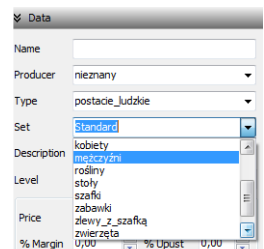

Fig. 276 – drop-down list of sets
- each new position entered in fields **Producer**, **Type** or **Set** is added to the drop-down list and can be selected from this list in the future instead of being entered again (Fig. 276);